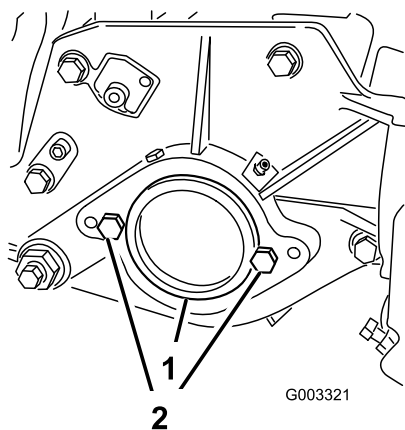

Figure 16
2. On right end of cutting unit, remove the plastic plug from the bearing housing (Figure 16).
3. Remove the 2 cap screws from the right side plate (Figure 16).
2. Cap screw (2)
5. Loosely install the 2 reel motor mounting cap screws to the left side plate of the cutting unit (Figure 16).